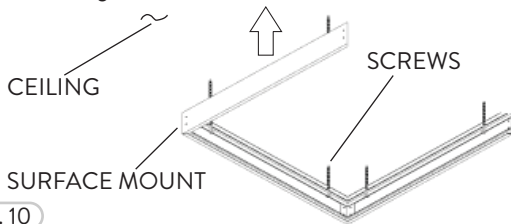

FIG. 10
- 2 Fasten the three Channels to the Ceiling surface. Bolts/Screws not provided (Fig. 10).